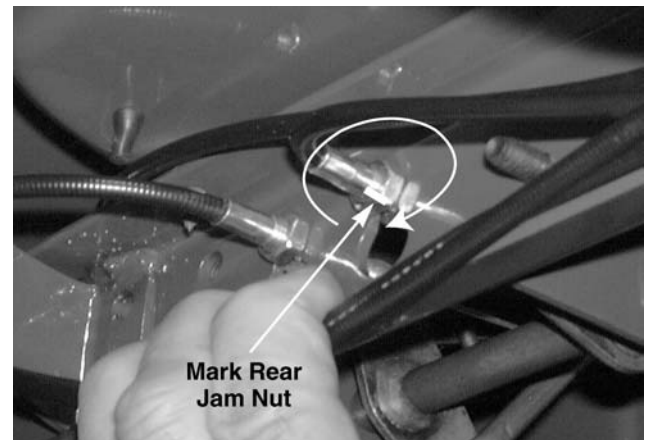

Figure 8-21.
8. Mark a line at any point on the back face of the rear jam nut. See Figure 8-21.